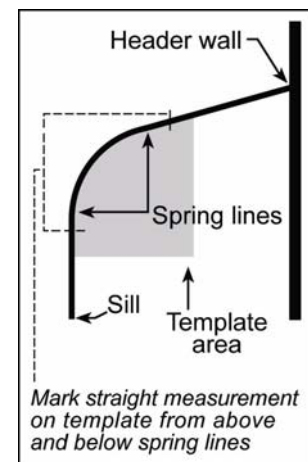

Figure 2
- The spring line is the exact point at which the mullion leaves the straight plane and starts to curve. The template should include an area 8"-10" below the lower spring line and 8"-10" above the upper spring line to cover the entire curve. The recommended template area is shown in Figure 2.
- 5 With a pencil, trace around the edge of the mullion as smoothly and exactly as possible so that a clean drawing is transferred to the paper. Start at least 8" inches below the lower spring line, follow it around the curve, and continue at least 8" inches past the upper spring line (as shown in Figure 2 on page 1).